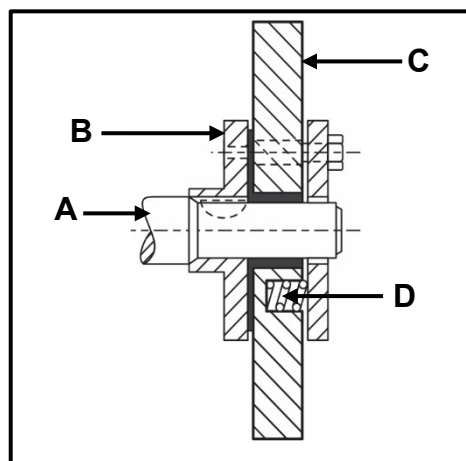

FIGURE 6.2
6.2 FIGURE 6.2 below shows a part that is fitted to the front of the crankshaft in an internal combustion engine. Answer the questions that follow.